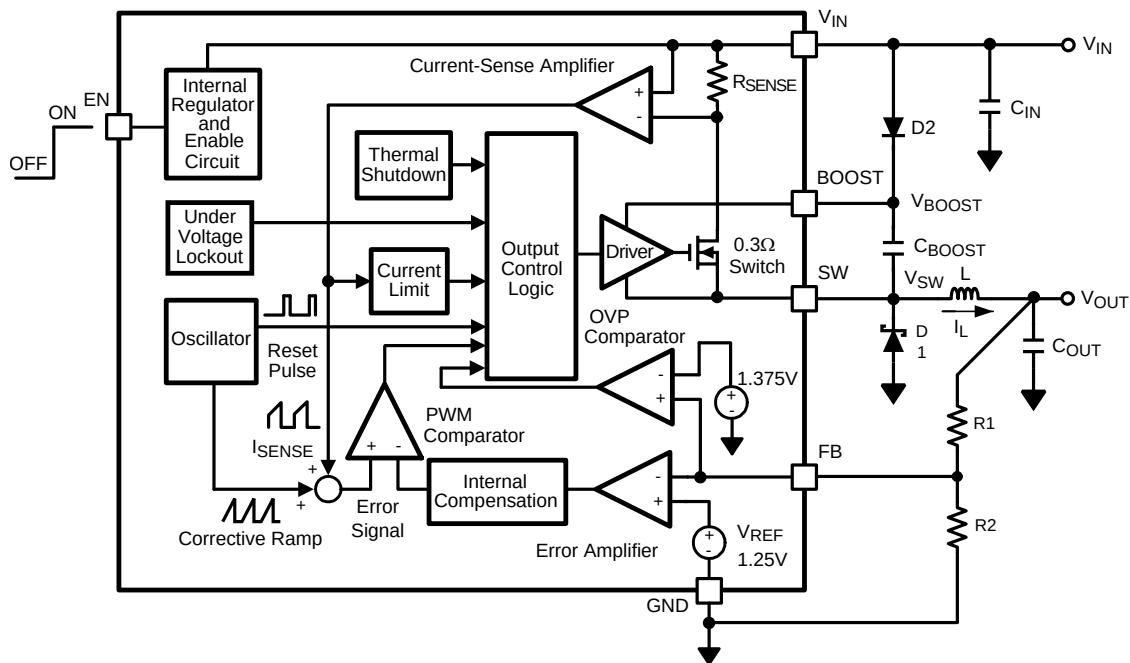

Figure 19.
The following operating description of the LM2736 will refer to the Simplified Block Diagram (Figure 19) and to the waveforms in Figure 20. The LM2736 supplies a regulated output voltage by switching the internal NMOS control switch at constant frequency and variable duty cycle. A switching cycle begins at the falling edge of the reset pulse generated by the internal oscillator. When this pulse goes low, the output control logic turns on the internal NMOS control switch. During this on-time, the SW pin voltage (V_{SW}) swings up to approximately V_{IN} , and the inductor current (I_L) increases with a linear slope. I_L is measured by the current-sense amplifier, which generates an output proportional to the switch current. The sense signal is summed with the regulator's corrective ramp and compared to the error amplifier's output, which is proportional to the difference between the feedback voltage and V_{REF} . When the PWM comparator output goes high, the output switch turns off until the next switching cycle begins. During the switch off-time, inductor current discharges through Schottky diode D1, which forces the SW pin to swing below ground by the forward voltage (V_D) of the catch diode. The regulator loop adjusts the duty cycle (D) to maintain a constant output voltage.
In the Simplified Block Diagram of Figure 19, capacitor C_{BOOST} and diode D2 supply the gate-drive current for the NMOS switch. Capacitor C_{BOOST} is charged via diode D2 by V_{IN} . During a normal switching cycle, when the internal NMOS control switch is off (T_{OFF}) (refer to Figure 20), V_{BOOST} equals V_{IN} minus the forward voltage of D2 (V_{FD2}), during which the current in the inductor (L) forward biases the Schottky diode D1 (V_{FD1}). Therefore the voltage stored across C_{BOOST} is